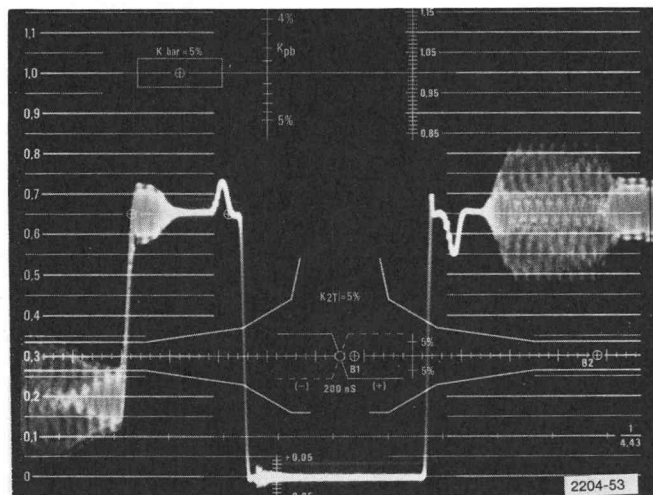

Fig. 6-6. Sync Delay Measurement.
c. CHECK—for aberrations of equal duration on either side of the sync pulse. See Fig. 6-6.
d. ADJUST—Sync Delay, R342, for equal aberration both sides of the sync pulse. See Fig. 6-6.